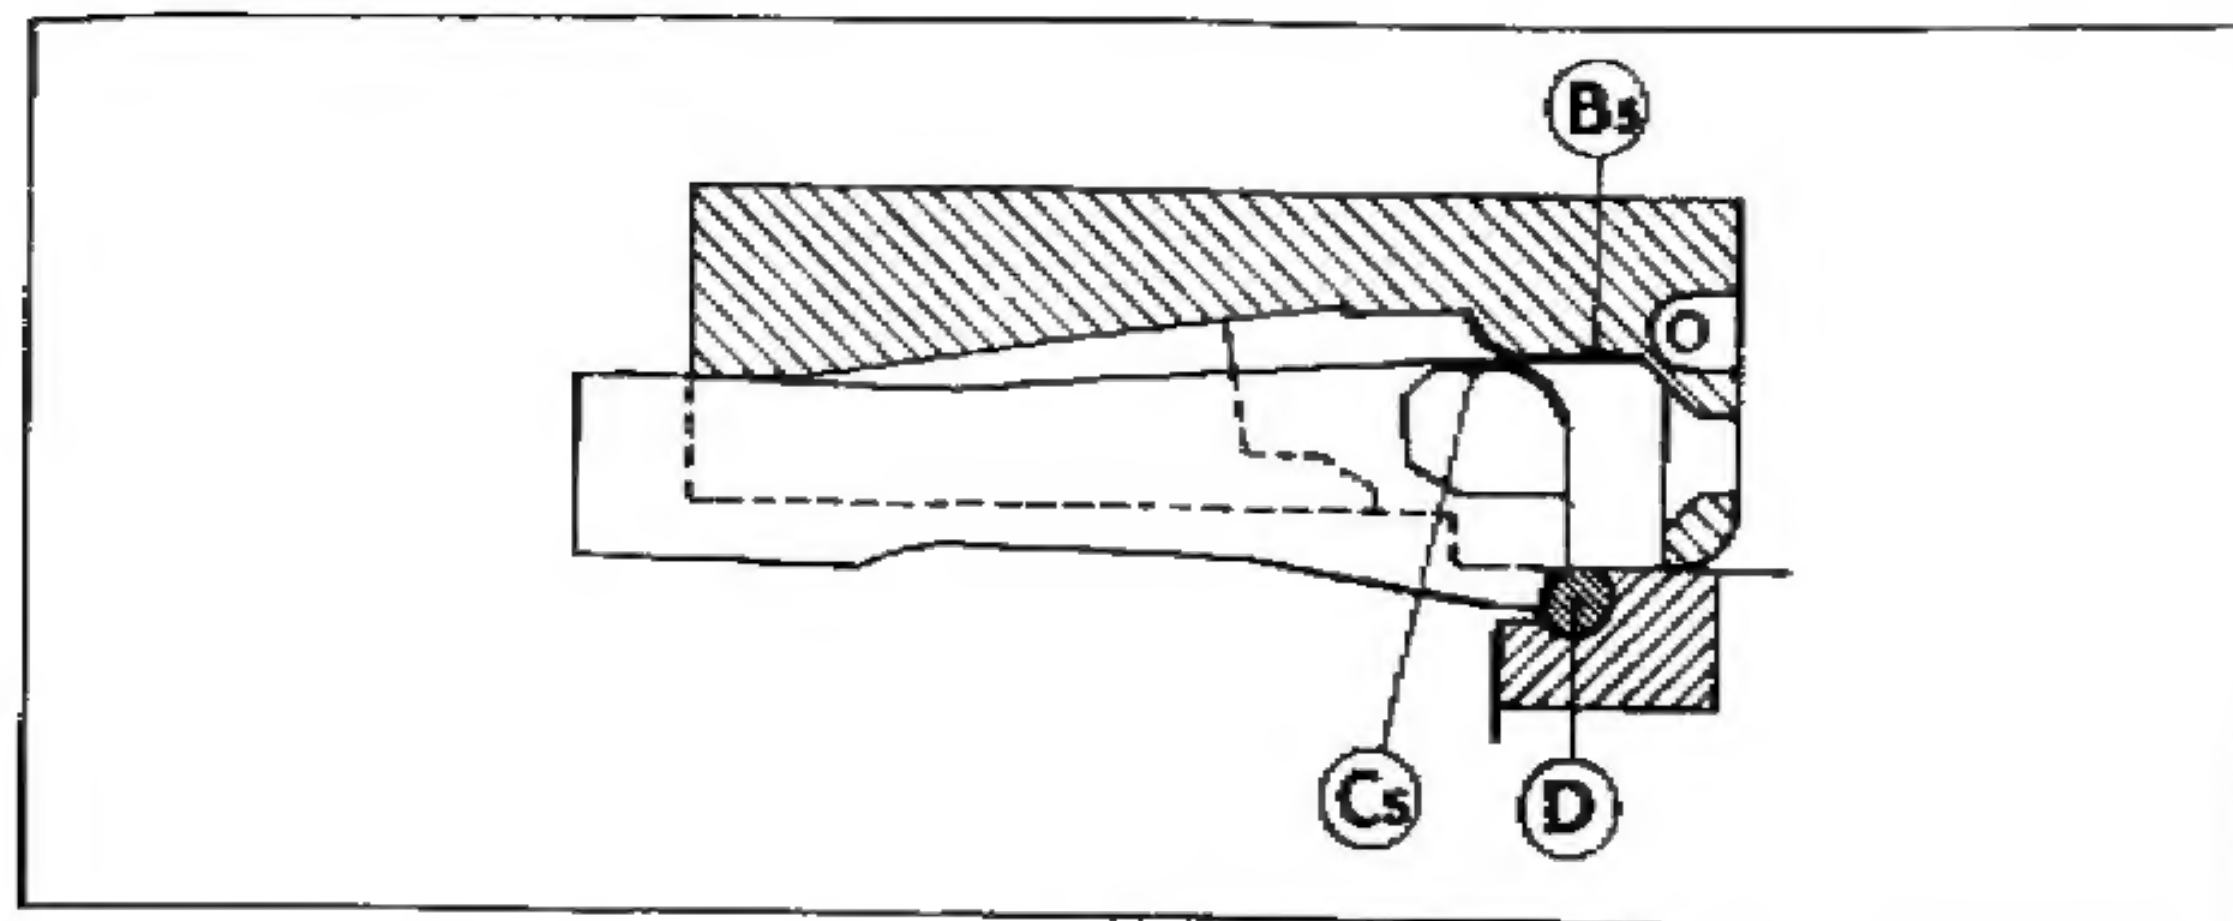

Fig. 11
- The slide continues its forward movement and its surface (B5) is brought above the breech block's surface (C5) (fig. 11), thus preventing the breech block from rising or unlocking.